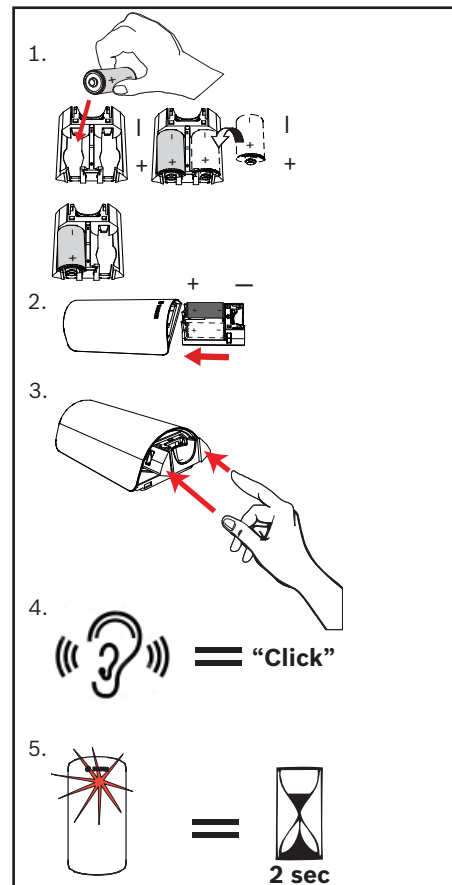

Figure 6.1: Battery insertion
2. Slide the tray in until the top of the tray is flush with the top of the detector body and you feel it “click” into position. The LED stays lit for 2 seconds immediately after the battery “clicks” into place. Refer to battery insertion sequence in Figure 6.1.